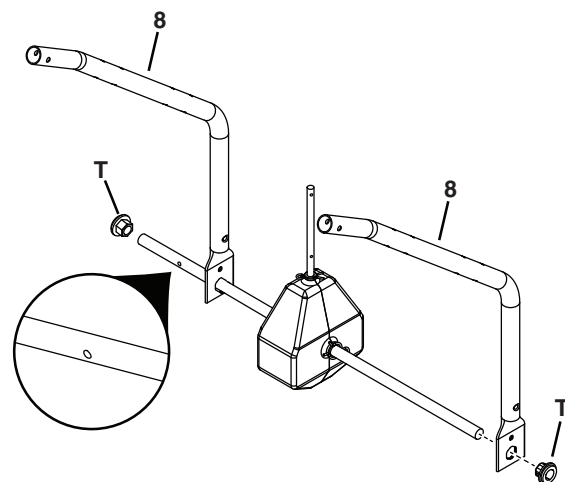

Figure 1
- (1) Pliers
- (2) 7/16" Wrenches
STEP 1: (SEE FIGURE 1)
- Press the hex bushings (T) into the hex holes in the bottom of the hopper support tubes (8).
- Slide the hopper support tubes (8) onto the gearbox axle.